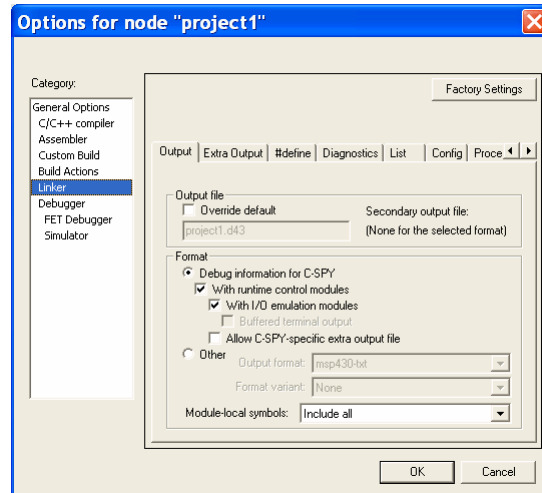

Figure 8. XLINK options dialog box for project1.
3.1. Select the project folder icon *project1 - Debug* in the Workspace window and choose *Project>Options* (Figure 8). Then select *Linker* in the Category list to display the *XLINK* option pages. For this tutorial, default factory settings are used. However, pay attention to the choice of output format and linker command file.